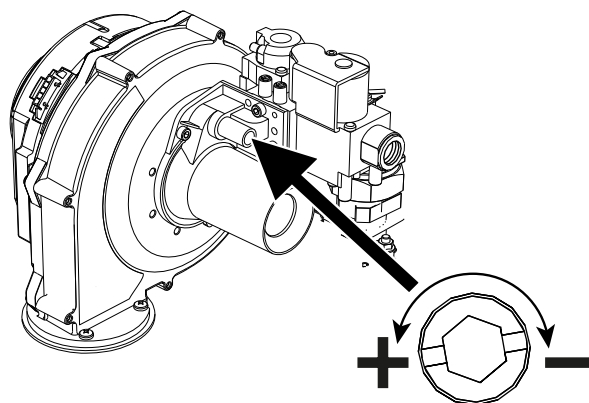

fig. 95- Maximum capacity adjustment screw
- If the values do not correspond to those indicated, adjust the CO₂ with the adjustment screw (see fig. 95), bringing them back to those indicated.